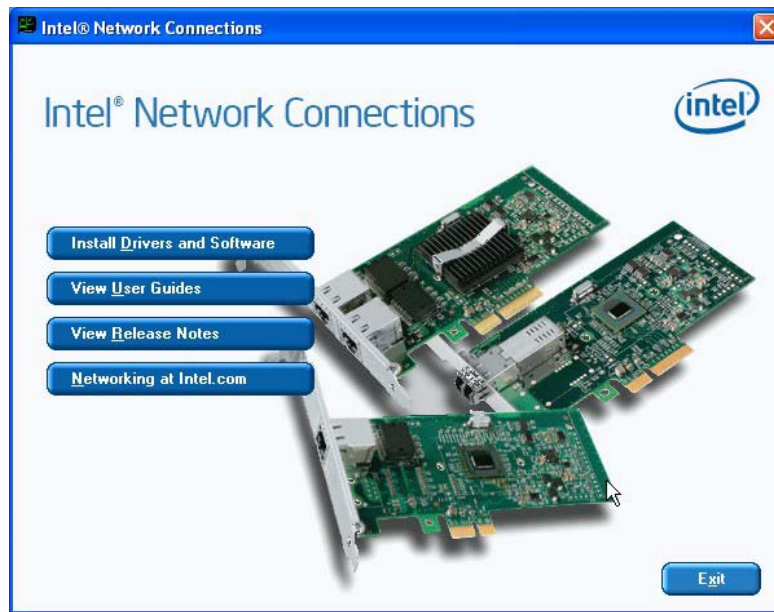

Figure 6-15: Intel® Network Connection Menu
Step 4: The Intel® Network Connection menu in **Figure 6-15** appears.